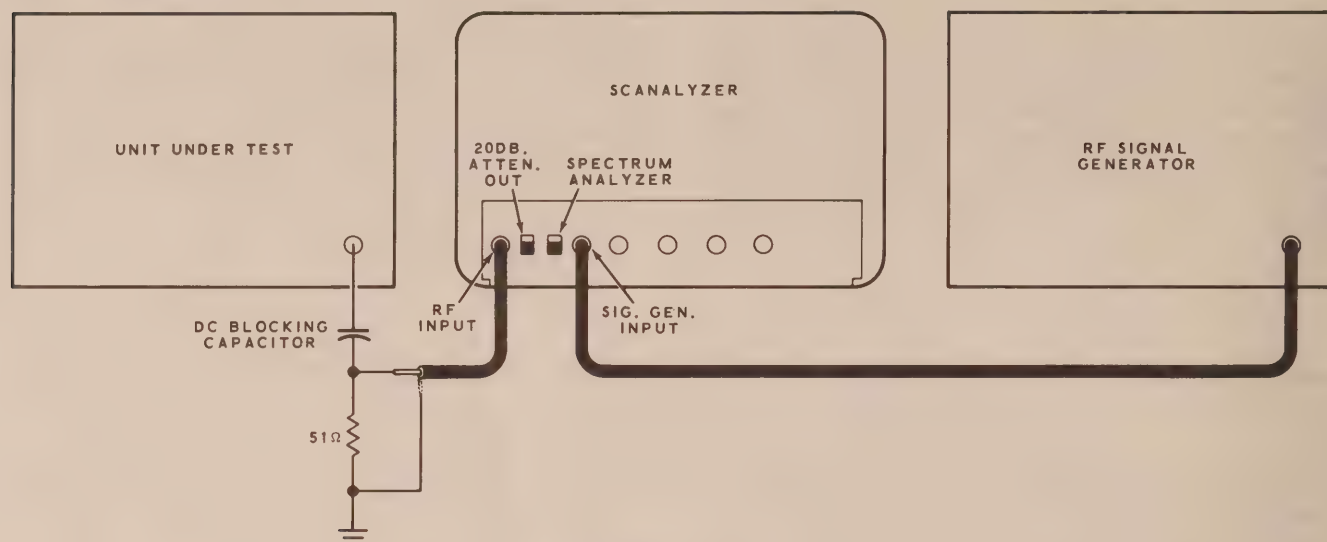
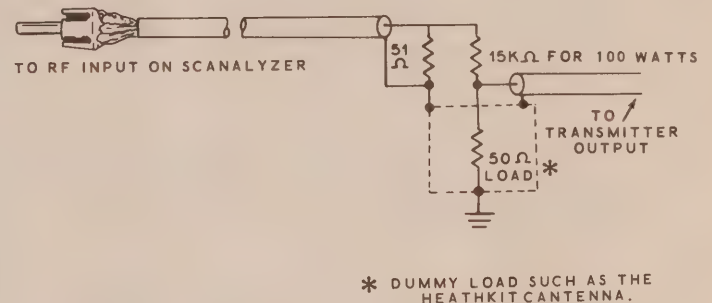

Figure 37
Figure 41
The Scanalyzer, when used as a spectrum analyzer, can be used to check such things as oscillator stages for harmonic levels, parasitics, etc.; mixer stages for signal and oscillator feed-through and mixer products; and linear amplifiers for distortion products. See Figure 37 and refer to the following instructions.
- ( ) To display two RF signals on the screen, follow the procedure listed under the heading "The Scanalyzer As A Basic Test Instrument," and connect the test signal cables as shown in Figure 37, except that the connection between the unit under test and the Scanalyzer should be made as shown in Figure 41. **NOTE:** Be sure the two audio signals modulating the transmitter are low in harmonic content or that the two tones selected are such that their harmonics fall outside the passband of the filter in the transmitter.